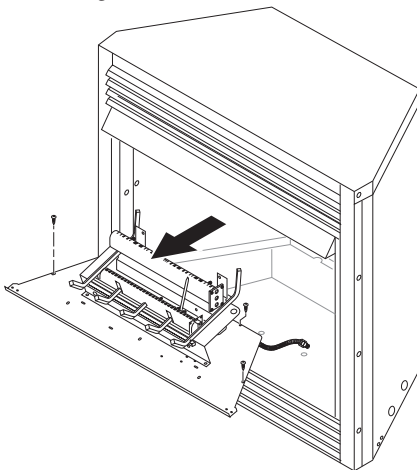

Figure 15 - Removing Log Base Assembly From Fireplace
2. Remove screws that attach log base assembly to fireplace (see Figure 15). Carefully lift up log base assembly and remove from fireplace (see Figure 15).